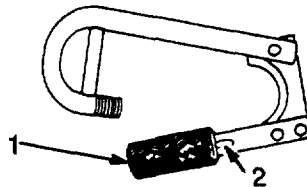

Figure 2-18. Knife Inspection.
When the ferrule (1) of a guillotine knife had been unscrewed to the full open position, the safety hole (2) should be covered (Figure 2-18) If the aperture is not covered, the item is unserviceable.
When the ferrule (1) of a guillotine knife had been unscrewed to the full open position, the safety hole (2) should be covered (Figure 2-18) If the aperture is not covered, the Item is unserviceable